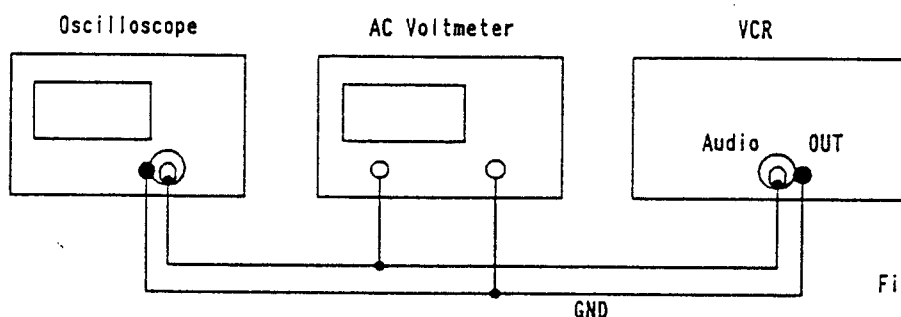

Fig. 2-13
1. Connect equipment as shown in Fig. 2-13.
Refer to Fig. 2-13